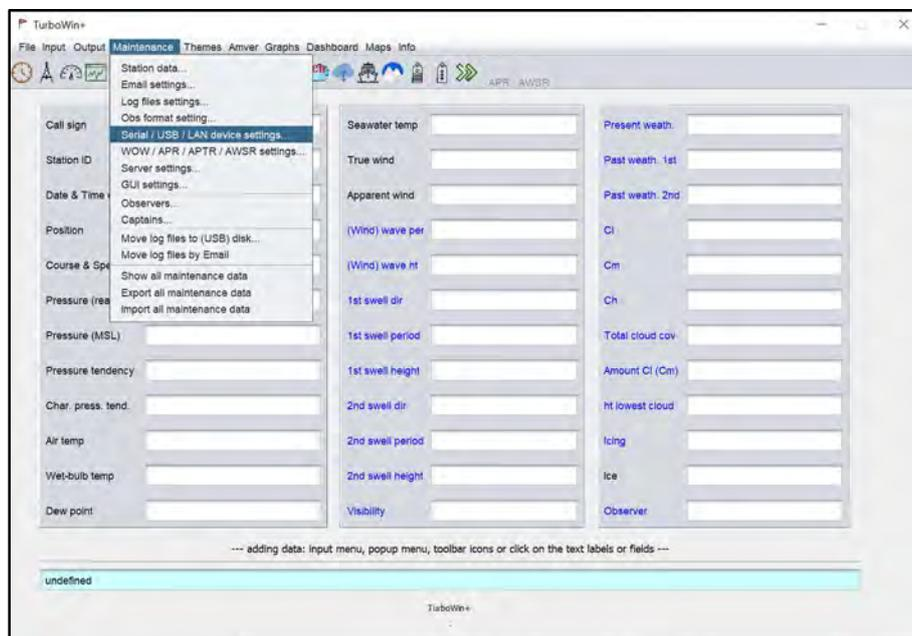

Figure 1: Serial/USB/LAN device settings
4. From the menu bar, select **Maintenance >> Serial/USB/LAN device settings (Figure 1)**. Enter the administrator password (see Annex 1) to login.